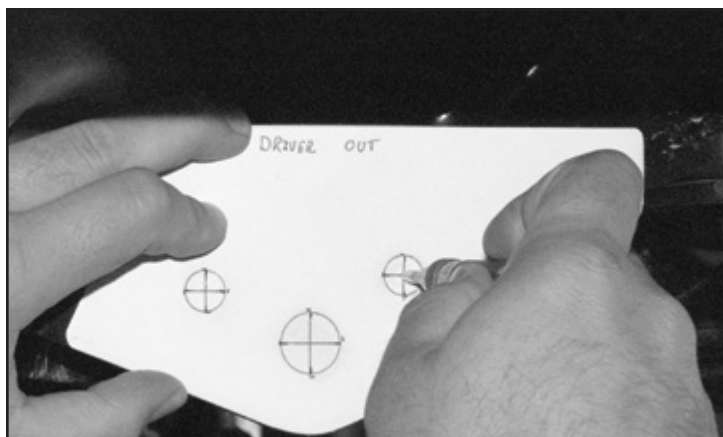

FIGURE 35 - STEP 41
41. Line up the drill template with the factory Radius arm bracket and mark the two holes around the radius arm pivot bolt. **SEE FIGURE 35**